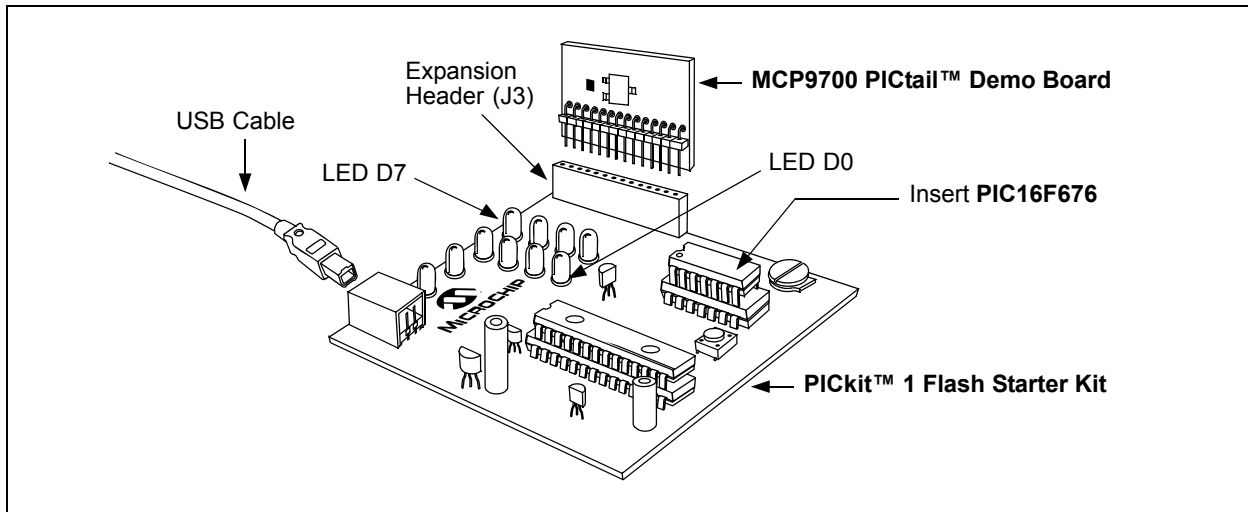
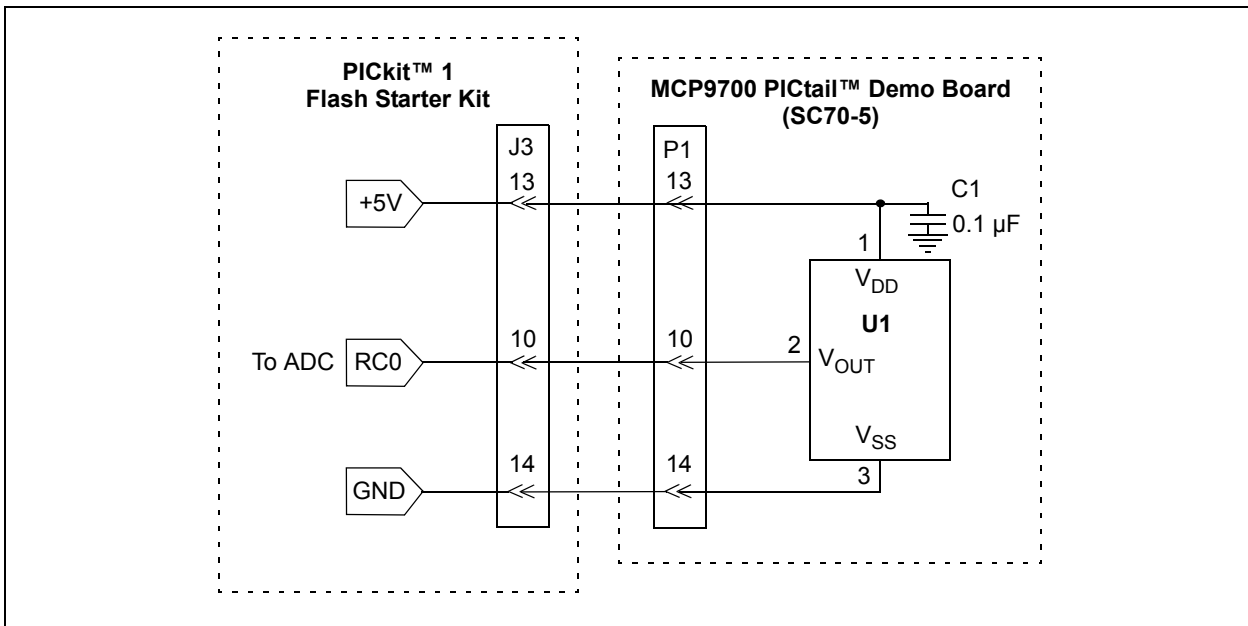

FIGURE 2-2: MCP9700 PICtail™ Demo Board and PICkit™ 1 Flash Starter Kit.
FIGURE 2-3: Simplified MCP9700 PICtail™ Demo Board Schematic.
1. Connect the P1 header of the MCP9700 Temperature-to-Voltage Converter PICtail™ Demo Board to the J3 connector on the PICkit 1 Flash Starter Kit board. Refer to Figure 2-2 for proper orientation of the MCP9700 Temperature-to-Voltage Converter PICtail™ Demo Board and Figure 2-3 for the simplified board schematic.